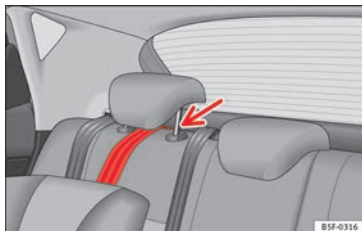

Fig. 33 Retainer strap: correct adjustment and fitting.
- Guide the strap under the rear seat head restraint »» **Fig. 33** (lift the head restraint where necessary).